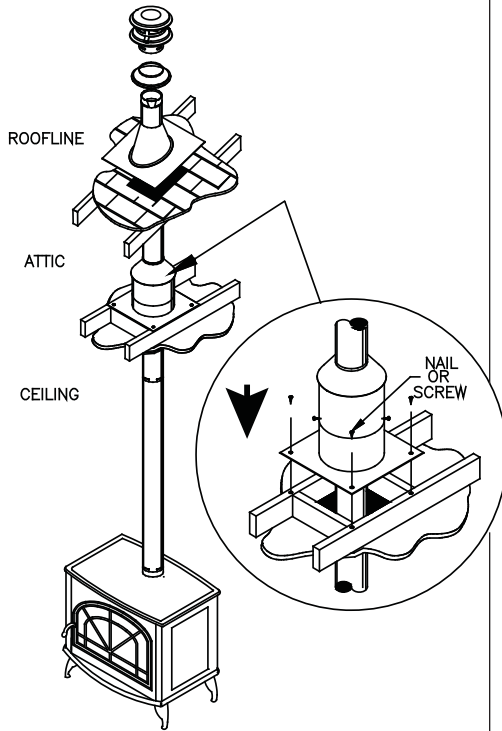

Figure 6
PelletVent Pro does not require additional sealant to be used at pipe joints, but in certain circumstances sealant may be used if desired. Seal the inner liner overlap at the male end of pipe for best results (**Figure 6**)
**G.** When the PelletVent Pro enters the attic, install an Attic Insulation Shield around the vent (**Figure 6**). This will prevent insulation and debris from collecting near the vent pipe. Use (4) nails or wood screws to secure the base of the Attic Insulation Shield to the framed opening. Adjust the height of the Attic Insulation Shield by sliding the top cylindrical shield over the one from the base. Ensure that the top of the Shield is above the level of building insulation. Secure the Shield in place with at least two (2) sheet metal screws through the side of the cylindrical shield. Attach collar around pipe, then lower to the top of the Attic Insulation shield.